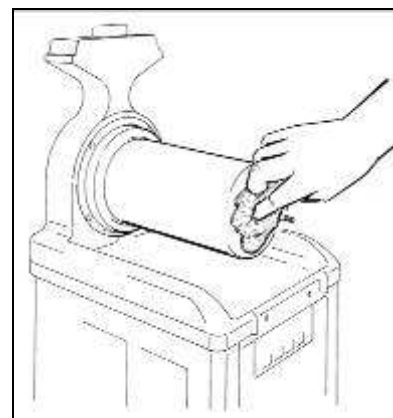

Fig. 20
- Thoroughly wash the evaporator and the drip tray surfaces with a sponge soaked with the sanitizer (see fig.20), leave at least 1-2 minutes and let it dry, do not rinse.